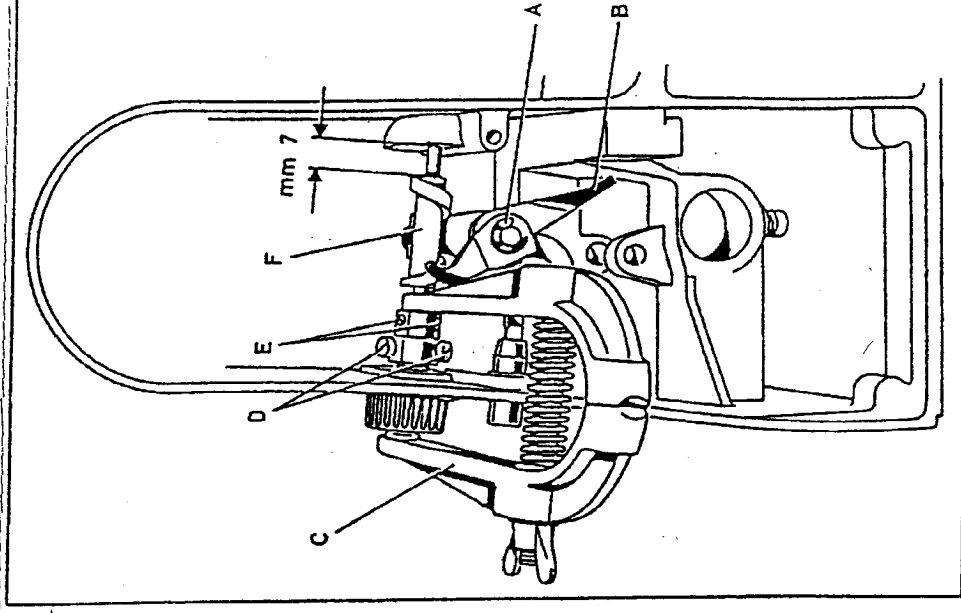

Fig. 25
- after having arranged gauge C (symbol 592452080-00) as shown in fig.25, after having put the stitch regulator knob on zero and the limiting device at the end of its stroke, turn the wing nut so as to charge the elastic washers (cup shaped) as required;
While leaving the stitch regulator knob on zero and the limiting device in its position of end of stroke (fig.25):